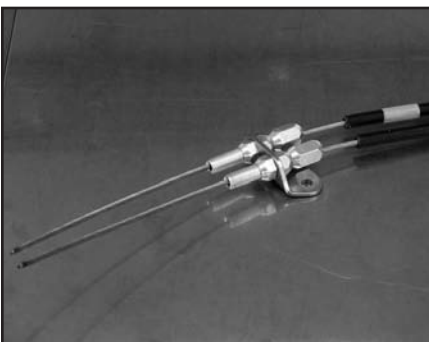
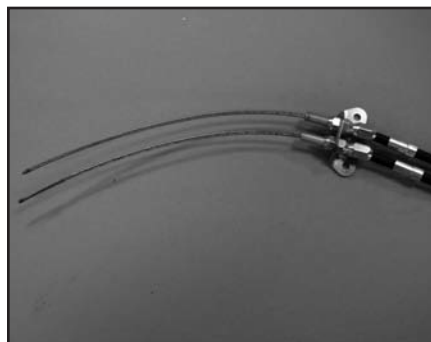

Figure 8
Figure 9
- Slide the Housing End Adjuster over the two inner cables, until it bottoms out against the cable covers, Figure 8. Remove tape from cable covers and slide ferrules into the Housing End Adjuster, Figures 9 and 10. **NOTE:** Put a little red Loctite® 271 on ferrule before inserting to help hold it in position.